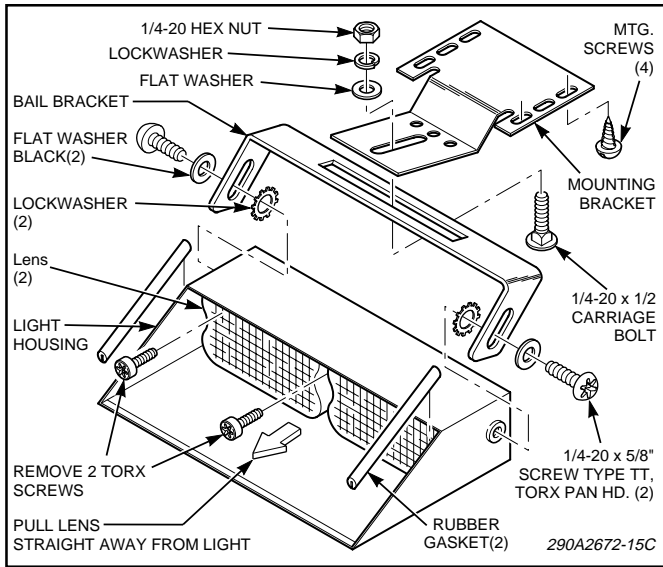

Figure 3.
6. See figure 3. Assemble the bail bracket to the light assembly using the two 1/4" x 5/8" pan head screws, external tooth lockwashers, and black flat washers. Do not tighten the screws at this time. Cut the rubber gaskets to length and assemble to the sides of the light assembly as shown in figure 3.
7. See figure 3. Assemble the light assembly/bail bracket to the mounting bracket's center slot using the 1/4-20 carriage bolt, flat washer, split lockwasher, and 1/4-20 nut. Do not tighten the nut at this time.
- a. See figure 3. Remove and retain the two screws which secure the lens. Carefully pull the lens straight away from the light assembly.
b. Remove and retain the two screws and lockwashers which secure the light assembly to the mounting bracket (see figure 3).